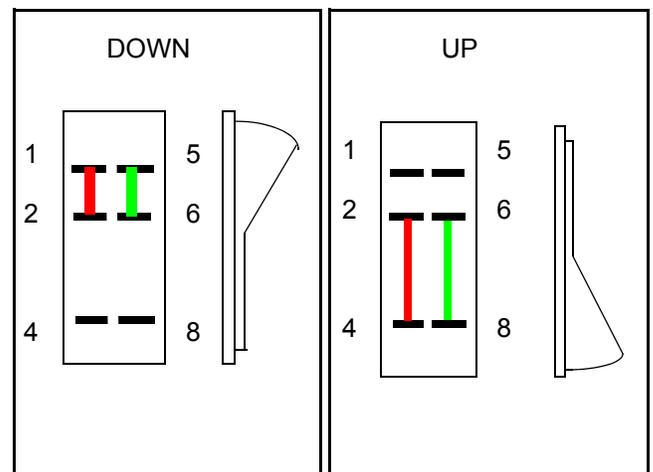

Figure 28.17
28.17. Rocking the switch in one direction closes contacts joining #1 to #2 (yellow) and #5 to #6 (red), connecting power to terminal #2 and ground to terminal #5. See Figure 28.17.